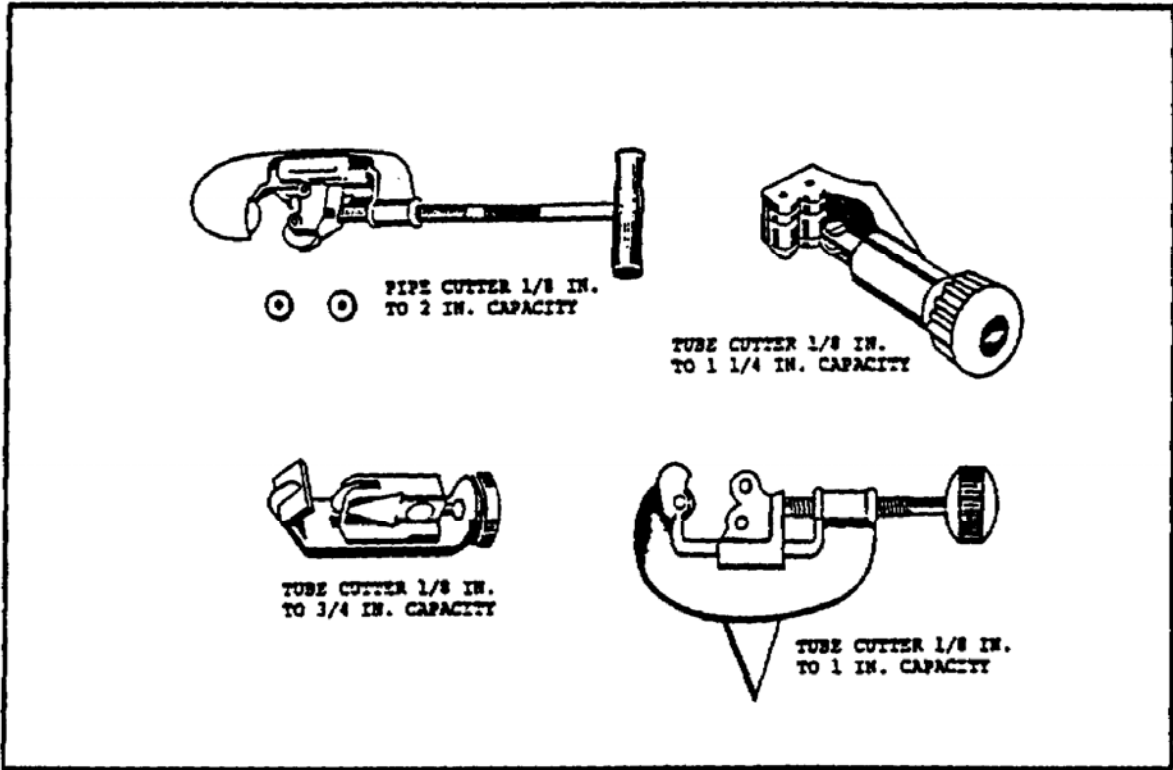
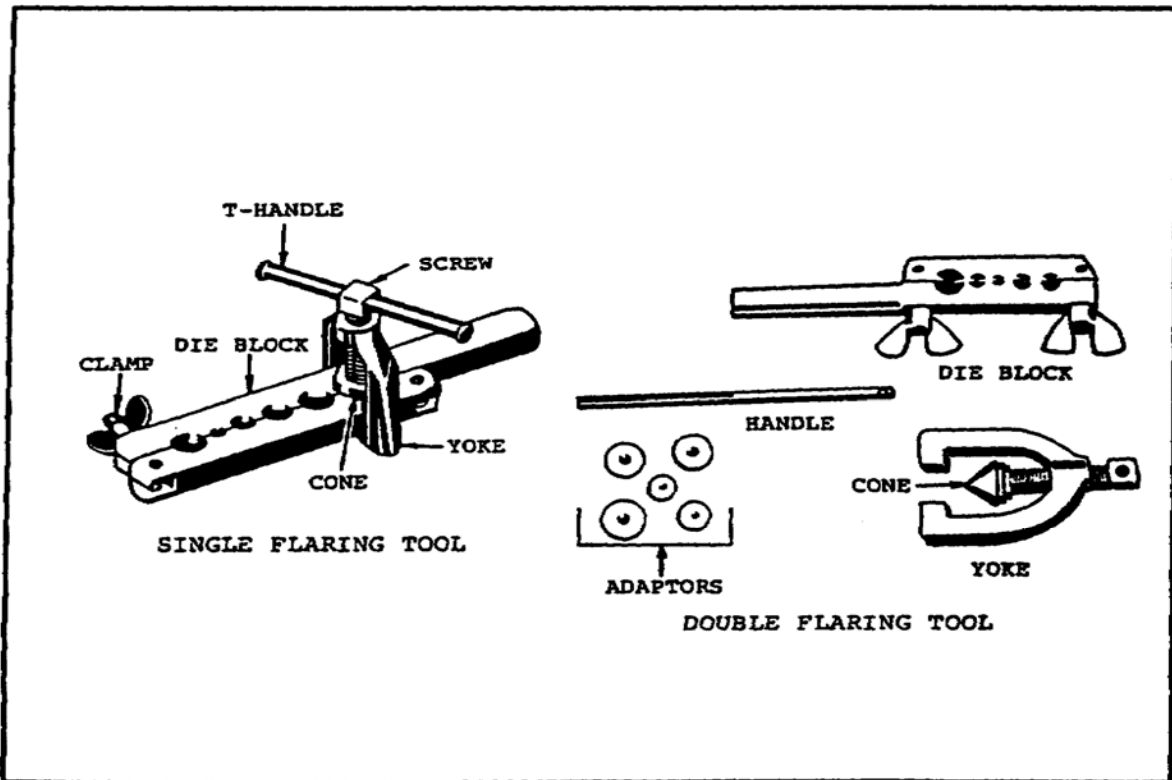

FIGURE 121. PIPE AND TUBE CUTTERS.
FIGURE 122. FLARING TOOLS.
a. *Purpose.* Pipe cutters (figure 121) are used to cut pipe made of steel, brass, copper, wrought iron, and lead. Tube cutters (figure 121) are used to cut tube made of iron, steel, brass, copper, and aluminum. The essential difference is that tubing has considerably thinner walls as compared to pipe. Flaring tools (figure 122) are used to make single or double flares in the ends of tubing.
(2) *Tube Cutters.* Some types of tube cutters closely resemble pipe cutters, except that they are of lighter construction. A hand screw feed tubing cutter of 1/8 inch to 1 1/4 inch capacity has two rollers with cutouts located off center, so that cracked flares may be held in them and cut off without waste of tubing. It also has a retractable reamer blade that is adjusted by turning a knob. Other types of tube cutters shown (figure 121) are designed to cut tubing up to and including 3/4 and 1 inch outside diameter (o.d.). Some cutters have the feed screw covered to protect the threads against dirt and damage.